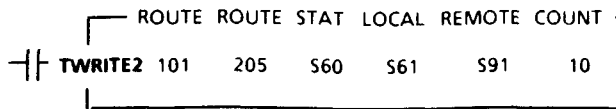

Figure 5.9 Rung for Variable ROUTE Example
1. Program the rung shown below in Figure 5.9 in the initiating Model 400